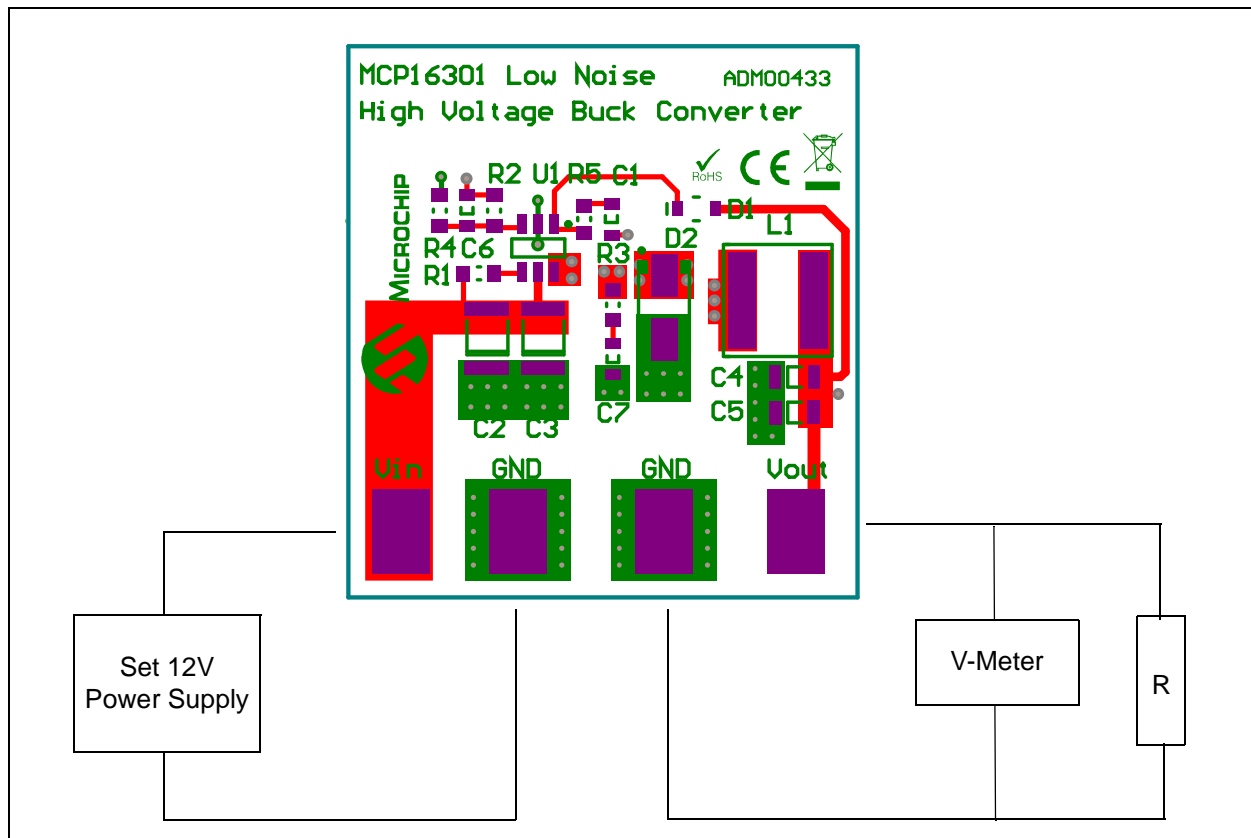

FIGURE 2-2: MCP16301 High-Performance Low-Noise 5V Buck Converter Evaluation Board Setup Circuit.
- Updated the board layout in Figure 2-2.